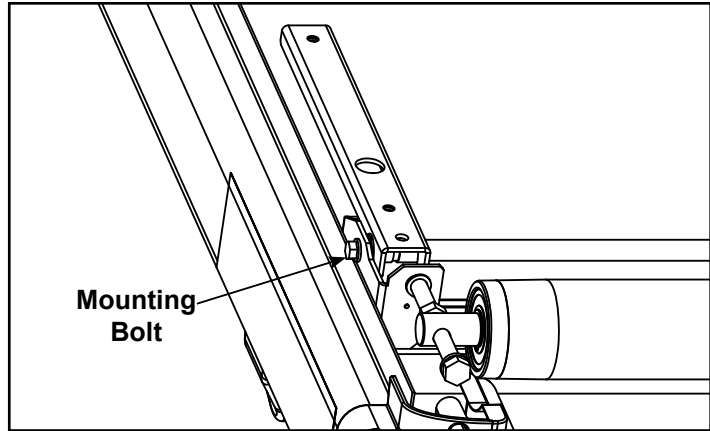

Figure 6
- Using a 9/16" socket wrench, remove the two bolts securing the deck pivot shaft to the frame. See Figure 6. **NOTE:** There is one bolt at each end of the deck pivot shaft.